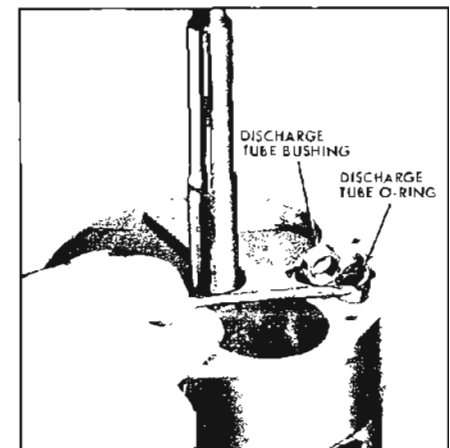

Figure 11-146—Installing Discharge Tube "O" Ring and Bushing
1. Install discharge tube front "O" ring and bushing. See Figure 11-146.